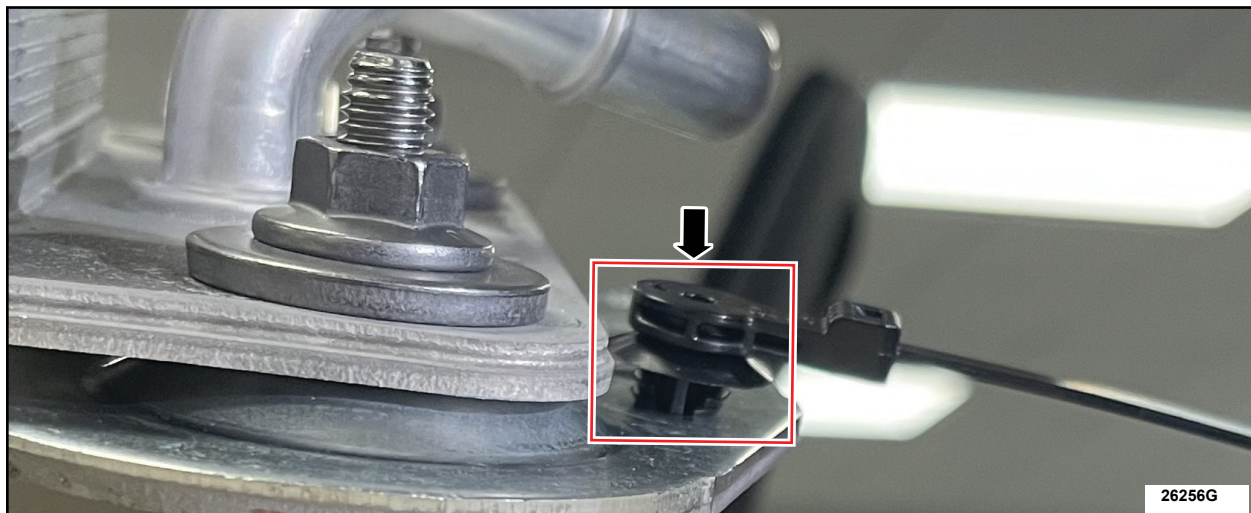

FIGURE 3
- The push-pin on the push-pin retainer is partially installed (NOT fully seated) in the transmission fluid heat exchanger bracket. See Figure 3 - Proceed to Step 6.